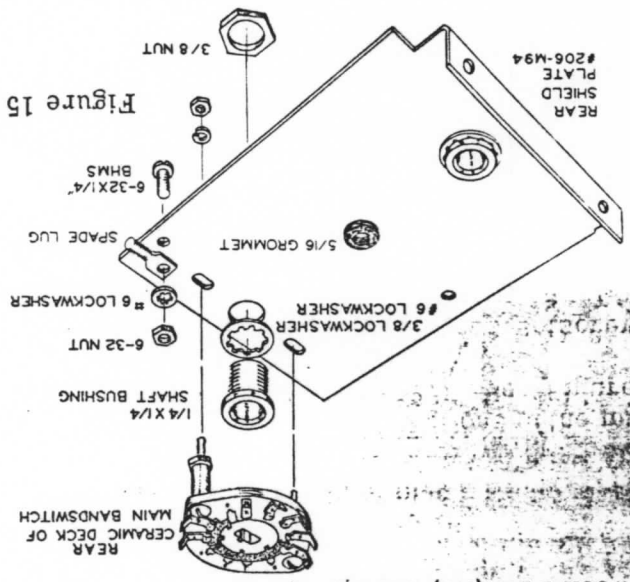

Figure 15
- (✓) Locate the rear shield plate (#206-M94) and, referring to Figure 15, mount a 1/4" x 1/4" shaft bushing in the hole farthest from the flange on the rear shield plate as shown. Using a 3/8" lockwasher, secure the bushing with a 3/8" control nut on the opposite side.
- (✓) Locate the ceramic rear deck of the main band switch (#63-179) and mount it over the bushing on the flanged side of the shield with the switch studs through the slotted holes. Use the hardware provided with the switch. Observe the position of switch lugs as shown in Figure 15. Secure the studs temporarily.
- () Slide the rear portion of the band switch shaft through the rear shield plate bushing as shown, then through the rotor of the ceramic band switch deck. (Do not force - if necessary loosen the ceramic deck studs and retighten.) Be sure all decks are positioned as shown in Figures 15 and 16 and the key mark openings in all rotors point away from the rear shield flanges.